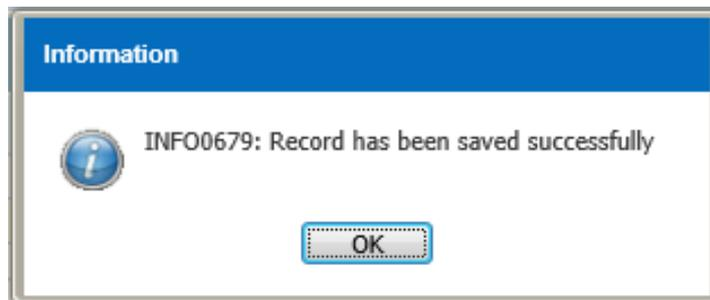

Figure 3.2.2-4 Information Message
- Record will save when user click on the  button as shown in Figure 3.2.2-4